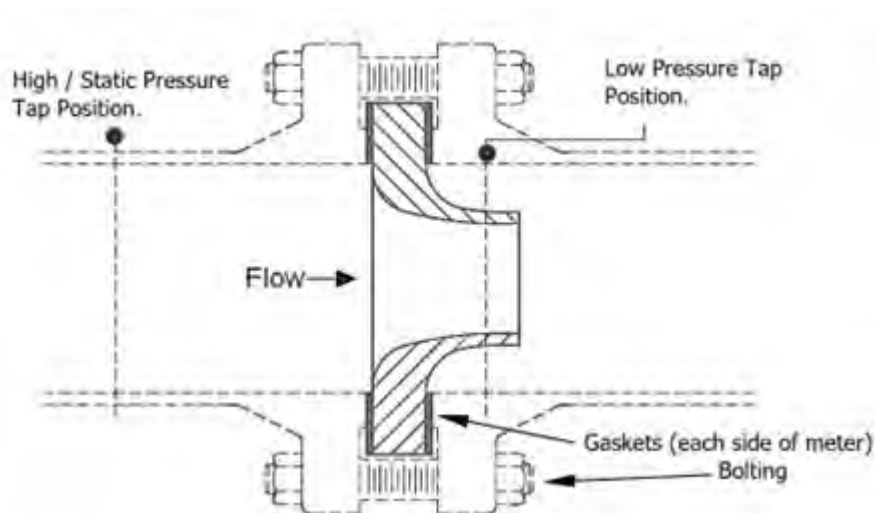

Fig 1. Flanged Flow Nozzle Type with Pipe Wall Low-Pressure Tapping
- 7.1 Flanged Type: Pipe-wall Tapping (Figure 1.) 6**
- 7.2 Flanged Type: Pipe-wall Tapping (Figure 1.) 6**